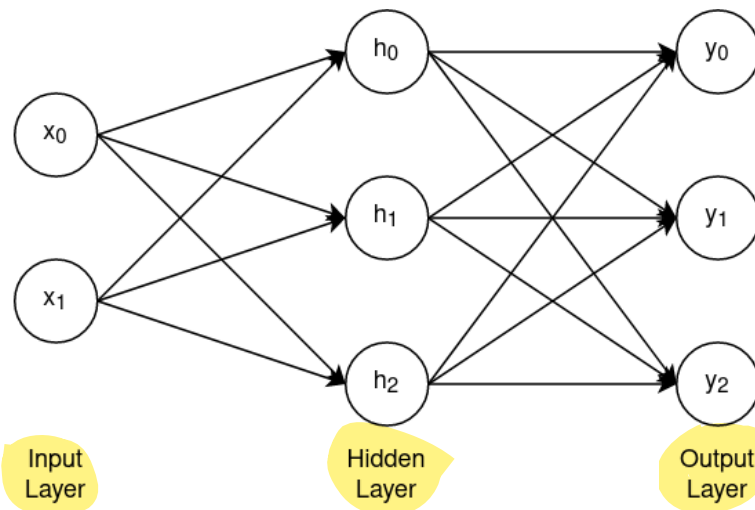

Figure 1: Neural Network Architecture
- [15 points] The neural network you will be implementing is a **multi-class classification model**. The architecture is as follows: **1 input layer consisting of 2 input neurons, 1 hidden layer consisting of 3 neurons and 1 output layer consisting of 3 output neurons.** Refer to Figure 1 for illustration.